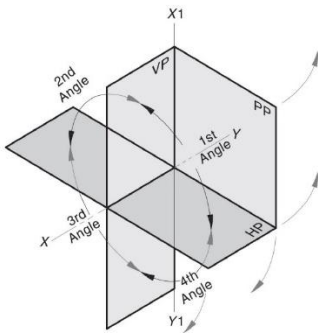
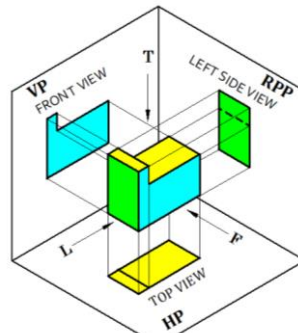

Fig. 1.14a Co-ordinate System
Fig. 1.14b 3D View
Various co-ordinate systems can be used to represent the drawings. However, first-angle co-ordinate system is used as per the BIS Standard for drawing the objects as shown in Fig. 1.14a and 1.14b. Commonly used reference planes are Horizontal Plane (HP), Vertical Plane (VP), Profile Planes (PP) - Right Profile Plane (RPP) and Left Profile Plane (LPP). Fig. 1.14a shows the quadrants used for representing the reference planes, Fig. 1.14b shows the 3D view and 1.15 shows 2D view.